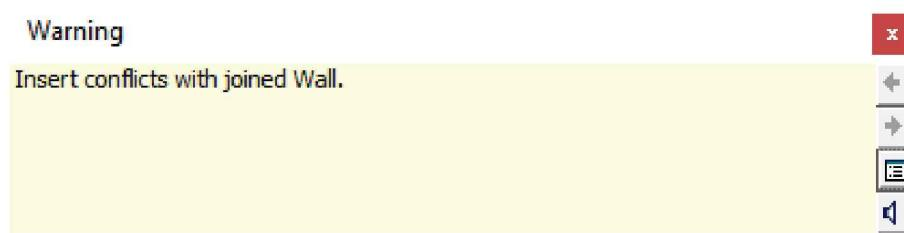

FIGURE 10-2.4 Conflict warning
- Click the “X” in the upper-right corner to ignore the wall/window conflict warning (Figure 10-2.4).